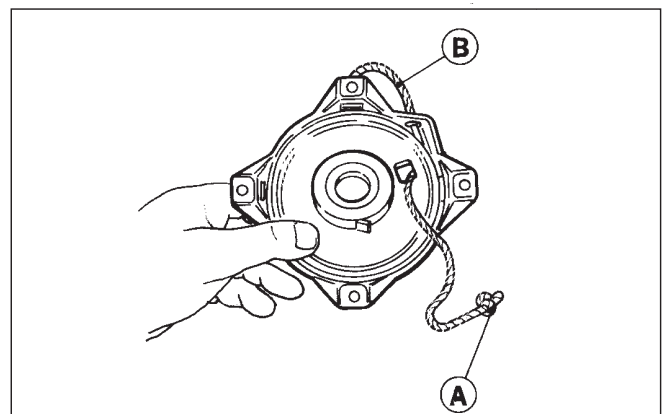

Fig. 3
Release spring tension. Slightly extend rope and lock pulley. Untie knot or remove staple securing handle and release pulley (Fig 3).
- Wind pulley clockwise until tight, then allow to unwind until the hole in the pulley lines up with the eyelet in the housing. Lock pulley. Install rope and handle. Tie knot in rope to secure to pulley. Release pulley. (Fig 3).